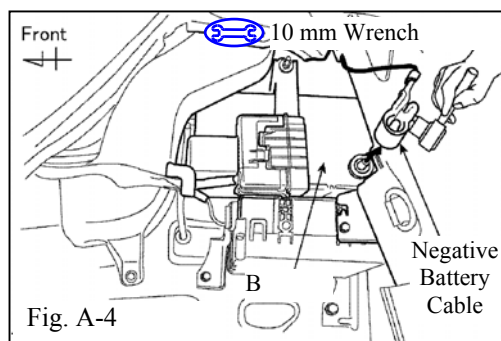

Fig. A-4
4. Remove the negative battery cable of the auxiliary battery. (Fig. A-4)